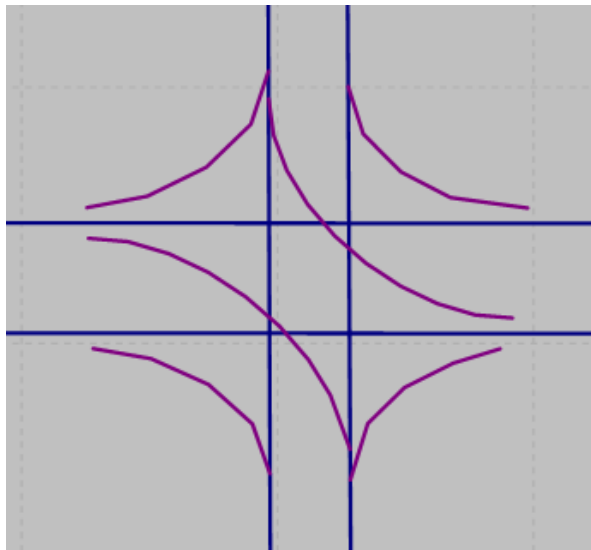

Figure 30: Buzz Blvd. and Ramblin St. with left turn bay links deleted
- step iii. In a similar manner delete the WB left turn bay *link*. Your intersection should now look similar to *Figure 30*. Notice, the EB and WB left *connectors* have been deleted as well. We will replace these in a subsequent step.